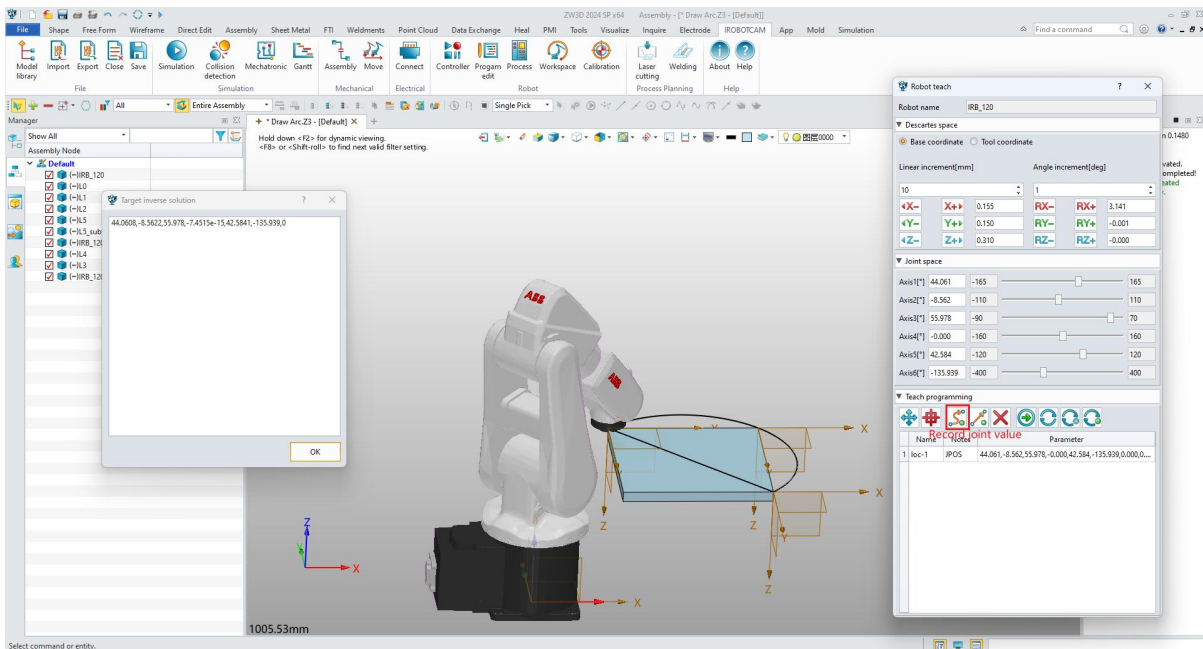

Figure 9-7: Add Marker Points
- Select the suitable item in the pop-up box, the robot will move to that position, and then click the "Record Joint point" button. (Figure 9-7)